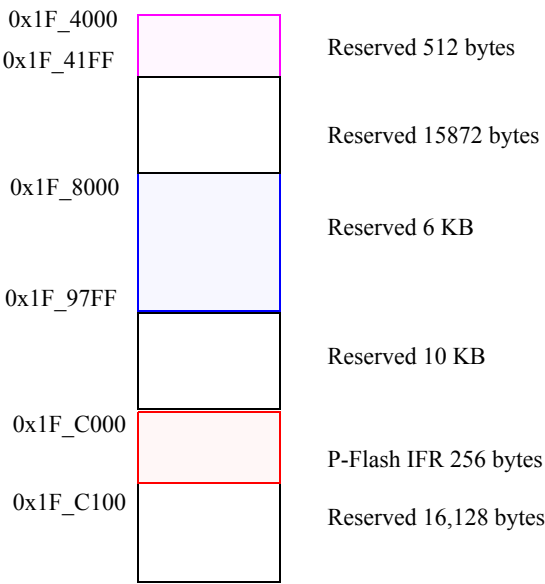

Figure 21-3. Memory Controller Resource Memory Map (NVM Resources Area)
| 0x1F_4000 – 0x1F_FFFF     | 49,152       | NVM Resource Area (1) (see <a href="#">Figure 21-3</a> ) |